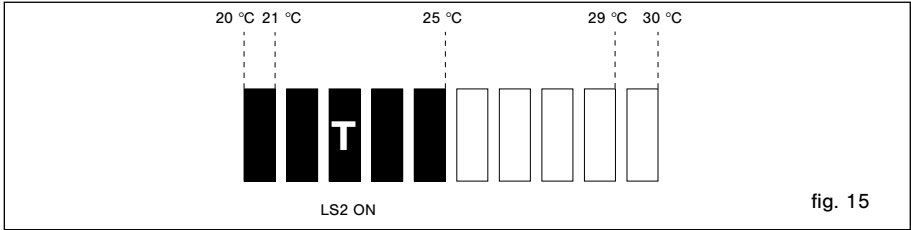

fig. 15
- resulting in the analogue bar graph display shown below (see fig. 15)